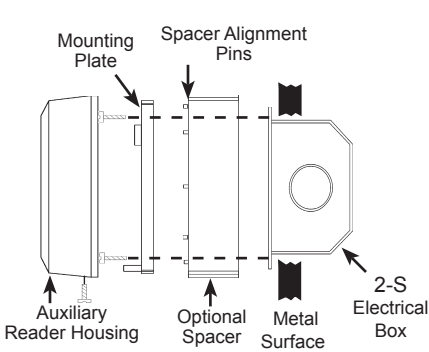

Figure 3 - Wall Mounting on Metal Surface with Optional Spacer
When mounting the reader on metal, install the optional Back Box /Spacer RK600-BB (Figure 3) between the mounting plate and the mounting surface to minimize the loss of reading distance caused by the metal.
- a. If using the optional spacer, insert spacer alignment pins into corresponding holes on the back of the mounting plate, then install both parts so that the spacer is closest to the wall or mounting surface (Figure 3).